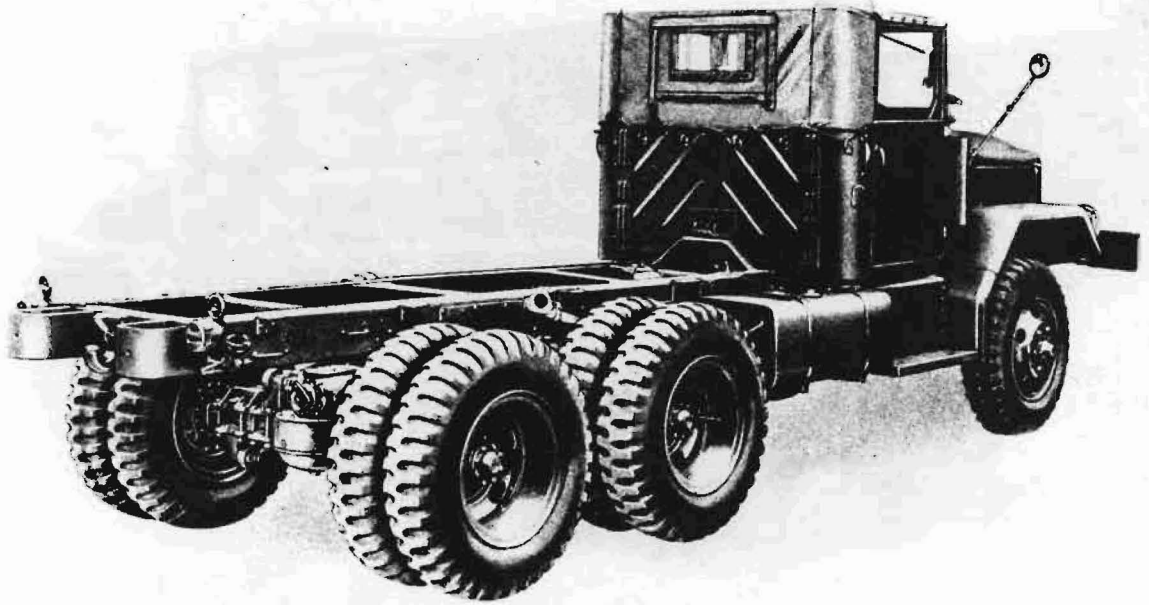

Figure 1. 2-1/2 ton 6 x 6 chassis truck M44 - left front view
c. Three basic wheelbase chassis provide for mounting the various body types (cargo, dump, fuel tanker, water tanker, vans, wreckers, telephone maintenance and pole setter) as well as fifth wheel trailer tractor equipment. Figures 1 thru 28 are typically representative of the various models and body equipment.